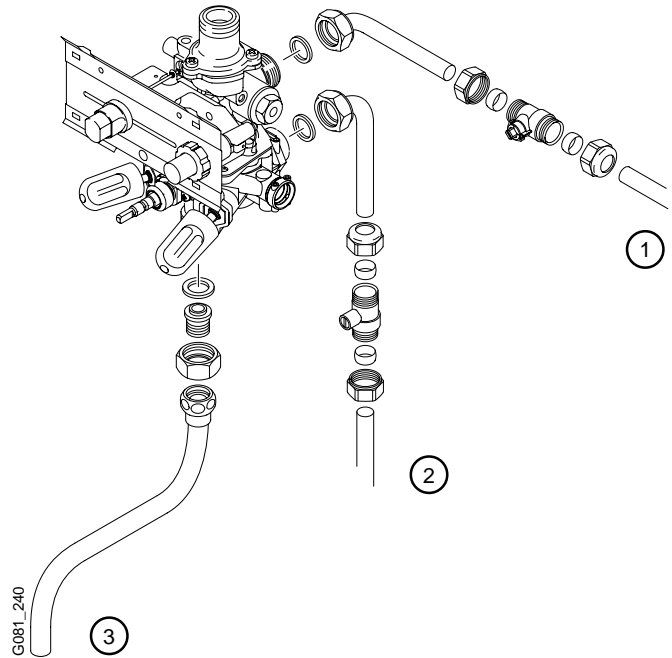

Fig. 4
- d) Make up the gas supply to the upper connection on the gas control assembly using the fibre washer provided. Fit the gas isolation cock as close as possible to the appliance (see fig. 4, pos. 1).
- e) Connect the appliance to the incoming cold water supply via the fitting which includes the stop valve. A fibre washer is provided (see fig. 4, pos. 2).
- f) Fit the brass union for the water discharge pipe to the water control valve outlet using the fibre washer provided. Fit the chrome plated discharge pipe to the union and tighten sufficiently to allow the pipe to swivel (see fig. 4, pos. 3).